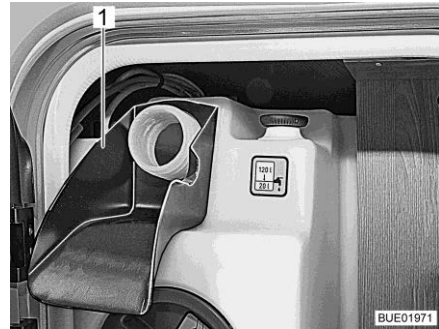

Fig. 253 Filling aid
- Plug the filling aid (Fig. 253,1) onto the drinking water filler neck.